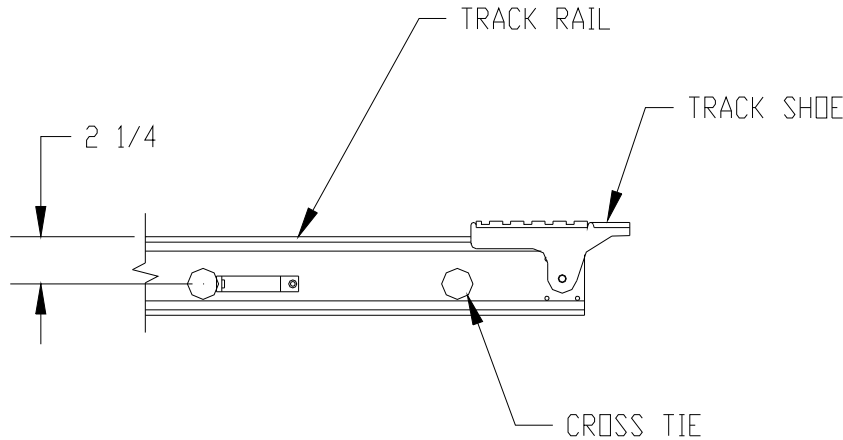

Figure 3-3.
1. Refer to Figure 3-3. The track cross ties are offset from the center of the rails to allow passage of the platform wheels. Before erecting the track, lay the bottom 16-foot track section on the ground with the track shoes as shown with the greater cross tie offset on top ($2\text{-}1/4$ ”).